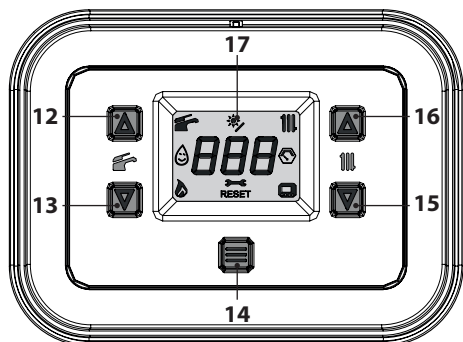
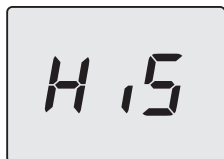
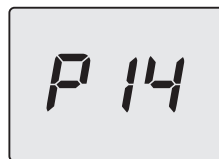

Figure 5.33
Figure 5.34
Figure 5.37
- Enter “programming mode” by pressing the 13 and 15 keys simultaneously for 5 seconds (Figure 5.33) until **HIS** (Boiler History) appears on the LCD display (Figure 5.34).
- Press the 14 key for 1 second (Figure 5.33) to enter the selected parameter. The display will show the following (Figure 5.37).
- Press button 14 (Figure 5.33) to confirm the value entered. The display will show the following (Figure 5.39) for 5 seconds, then move up to the next level.
- Press the keys 13 and 15 simultaneously (Figure 5.33) to exit the level without changing the value (return to the previous level).
- press the 13 and 15 keys simultaneously for 5 seconds (Figure 5.33) (return to previous level).
If the room temperature is not comfortable, you can increase or decrease the heating system delivery temperature by $\pm 15^\circ\text{C}$ using the 15 (decrease) and 16 (increase) buttons (Figure 5.33).